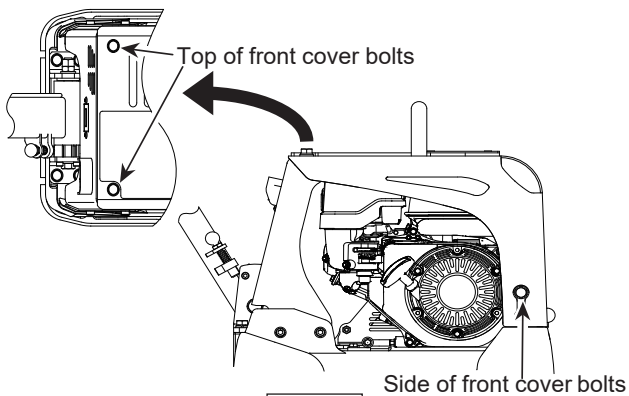

Fig.23
- 1 Remove the bolts on the front cover. Loosen the bolts on the side of front cover. (Do not remove.) (Fig.23)
- 4 Return the front cover to original position slowly. Tighten the bolts in the specified torque. (Fig.23)